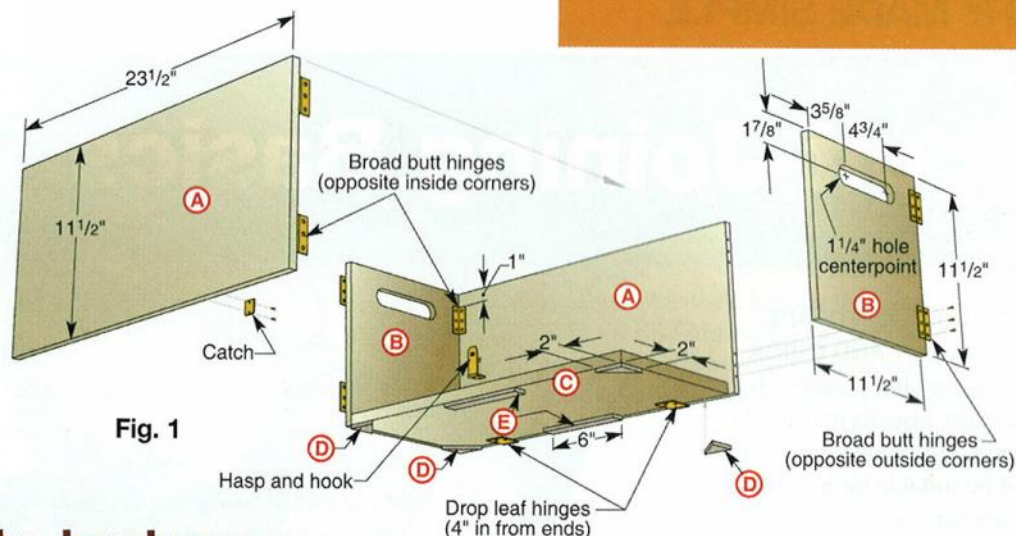

Fig. 1
2 Return to the ends (B) and mark two center points for the 6" handle openings where shown in the Box Exploded View, **Figure 1**. Drill the $1\frac{1}{4}$ " holes, strike cut lines at the top and bottom of the holes to connect them, and then jigsaw or scrollsaw out the elongated openings to form the
3 Next, cut four triangular corner feet (D) and two rectangular edge feet (E) from $\frac{1}{4}$ "-thick scrap plywood. See the dimensions in **Figure 1**. Glue and clamp these pieces onto the bottom face of the box bottom (C) where shown. (If you plan on finishing your box, do this now before assembly.)
1 Stand one side (A) and one end (B) on their bottom edges and butt the side against the inside face of the end, ensuring that the outside face of the side is flush with end's edge. (See the hinge locations in **Figure 1**.) Place a broad butt hinge in the inside corner 1" down from the top edge. Start the screw holes with an awl or Vix bit, and then drive the screws. Place a second broad butt hinge 1" up from the bottom inside corner and secure it. Apply a pair of broad butt hinges to the remaining side and end, creating an opposing second side/end assembly.